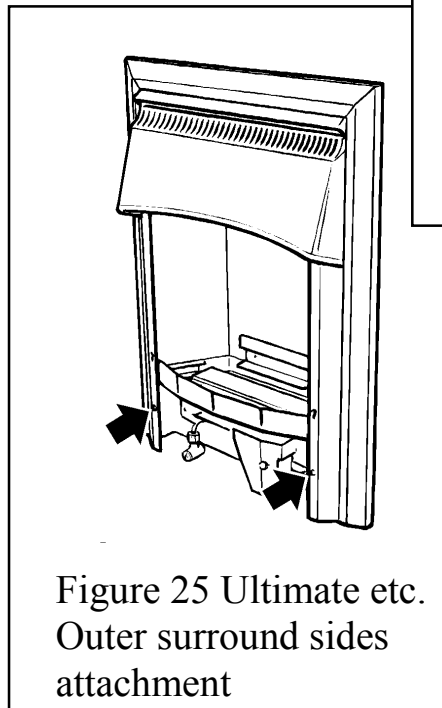

Figure 25 Ultimate etc.
2. Secure the surround sides to the convection box brackets with the two screws provided. See figure 25.